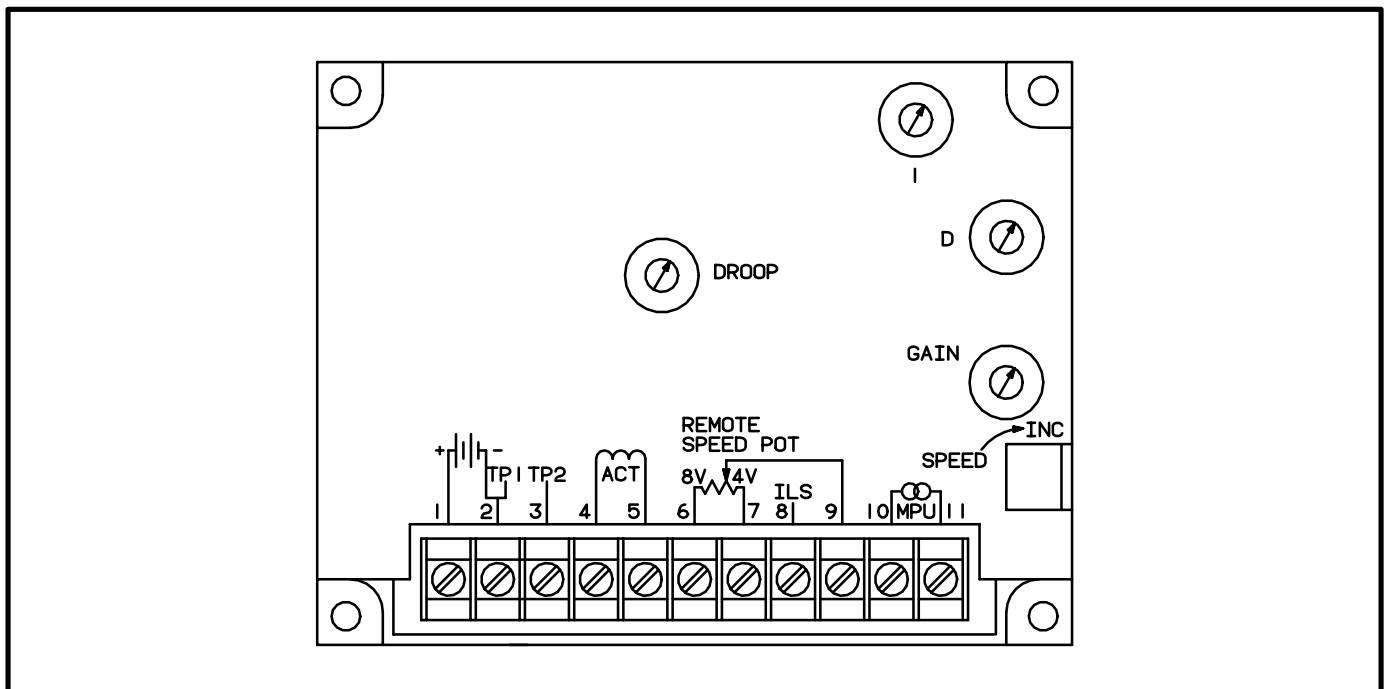

FIGURE 6-2. GOVERNOR CONTROLLER TERMINALS AND ADJUSTING POTENTIOMETERS
2. Disconnect the load and turn the **Droop** (Figure 6-2) potentiometer to zero.